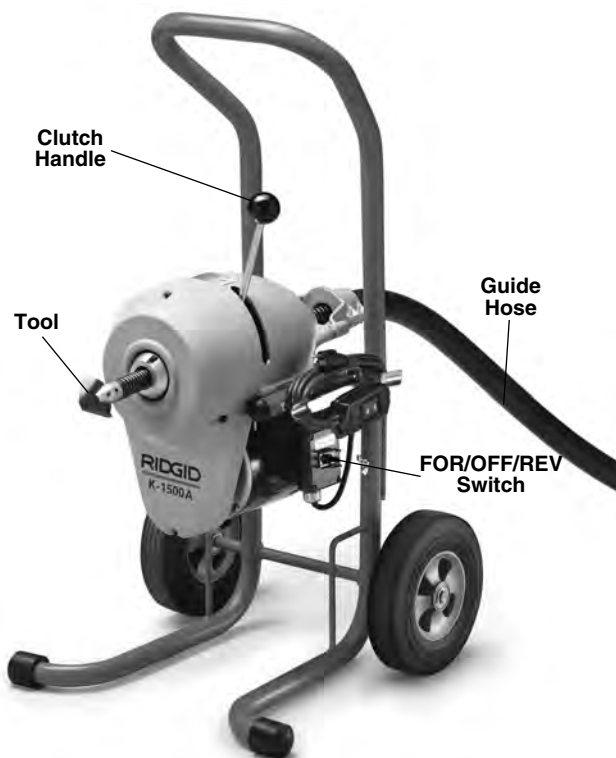

Figure 1 – K-1500A and K-1500SPA Drain Cleaners
1. Make sure the Drain Cleaning Machine is unplugged and the directional switch is set to the **OFF** position (Figures 1 and 2).